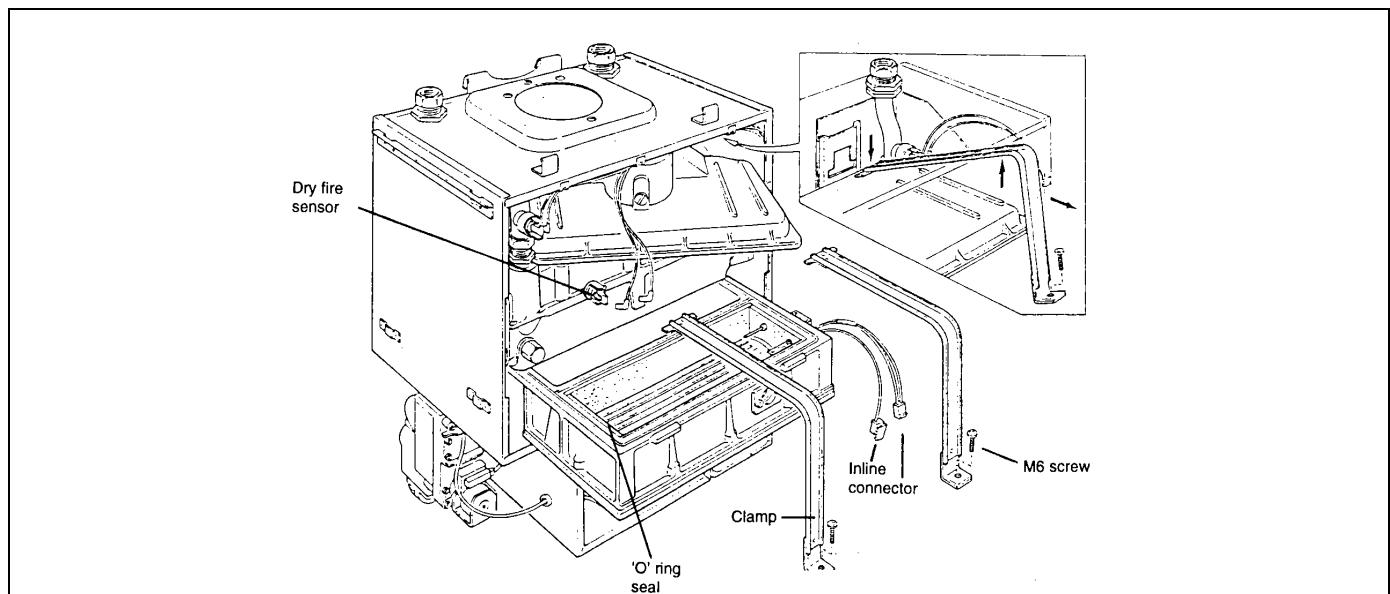

FIG. 17 REMOVING CLAMPS
- 6) Disconnect inline connectors for the hot surface igniter and the flame sensor on the right hand side of the combustion chamber. FIG. 17.
- 7) Remove two M6 screws retaining clamps around flue hood and combustion chamber. FIG. 17.
- 8) Remove the top clamps from their anchor points at the rear of the casing. FIG. 17.
- 9) Disconnect electrical connections from dry fire sensor. FIG.17.
- a) Remove combustion chamber as described in “**Servicing Boiler**”. See FIG. 17.
- a) Remove combustion chamber/fluehood as described in “**Servicing Boiler**” See Fig.17.